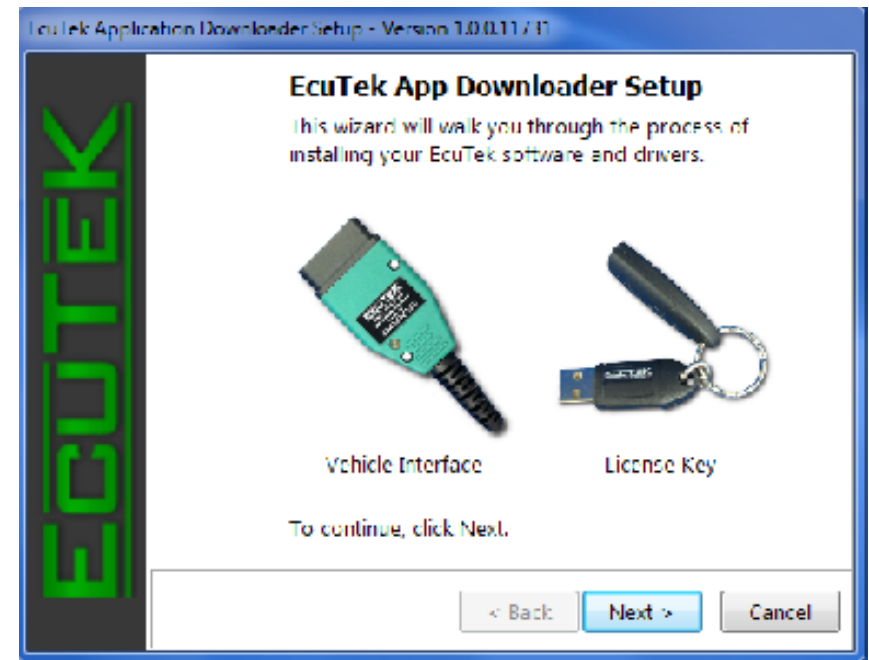

Fig. 1C
- C. After you have selected [EcuTek App Downloader], you will be prompted with a new window. Select [Next] to continue. Fig 1C.